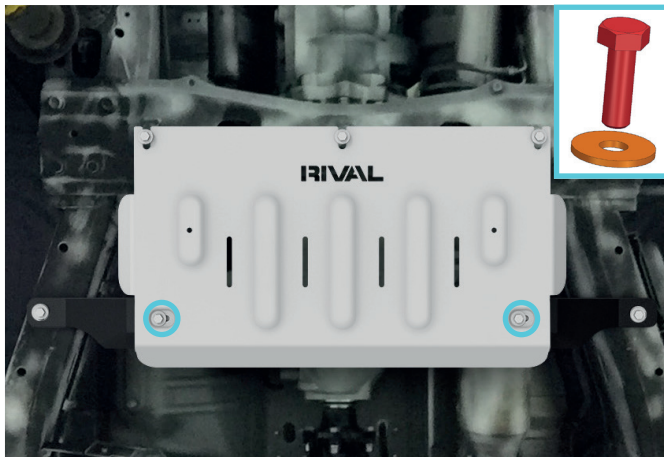

Fig. 4
**4.** Secure rear part of the skid plate to mounting bracket using bolts M8x1.25x25 (item A) with washers M8 (item B) as shown in fig.4.